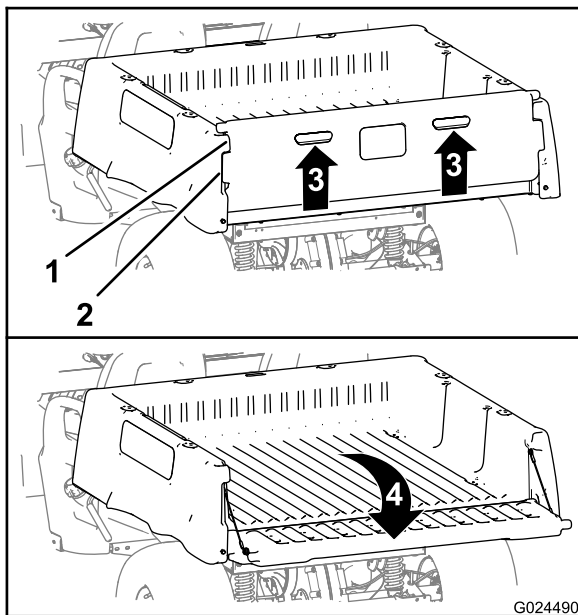

Figure 12
2. Lift up on the finger pulls at the back panel of the tailgate (Figure 12).
3. Align the lock flanges of the tailgate with the openings between the tailgate flanges of the cargo box (Figure 12).
4. Rotate the tail gate rearward and down (Figure 12).
6. Rotate the tailgate up and forward until the lock flanges of the tailgate are flush with the tailgate pocket in the cargo box (Figure 12).
7. Lower the tailgate until it is seated in the back of the cargo box (Figure 12).